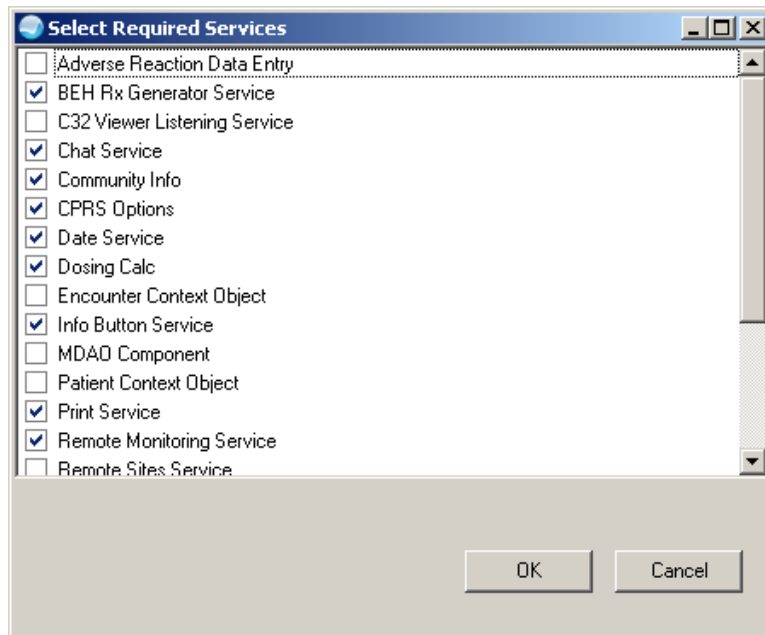

Figure 2-2: Options on **Select Required Services** dialog
9. Select **Required Services** from the **Design** menu to display the **Select Required Services** dialog (Figure 2-2).